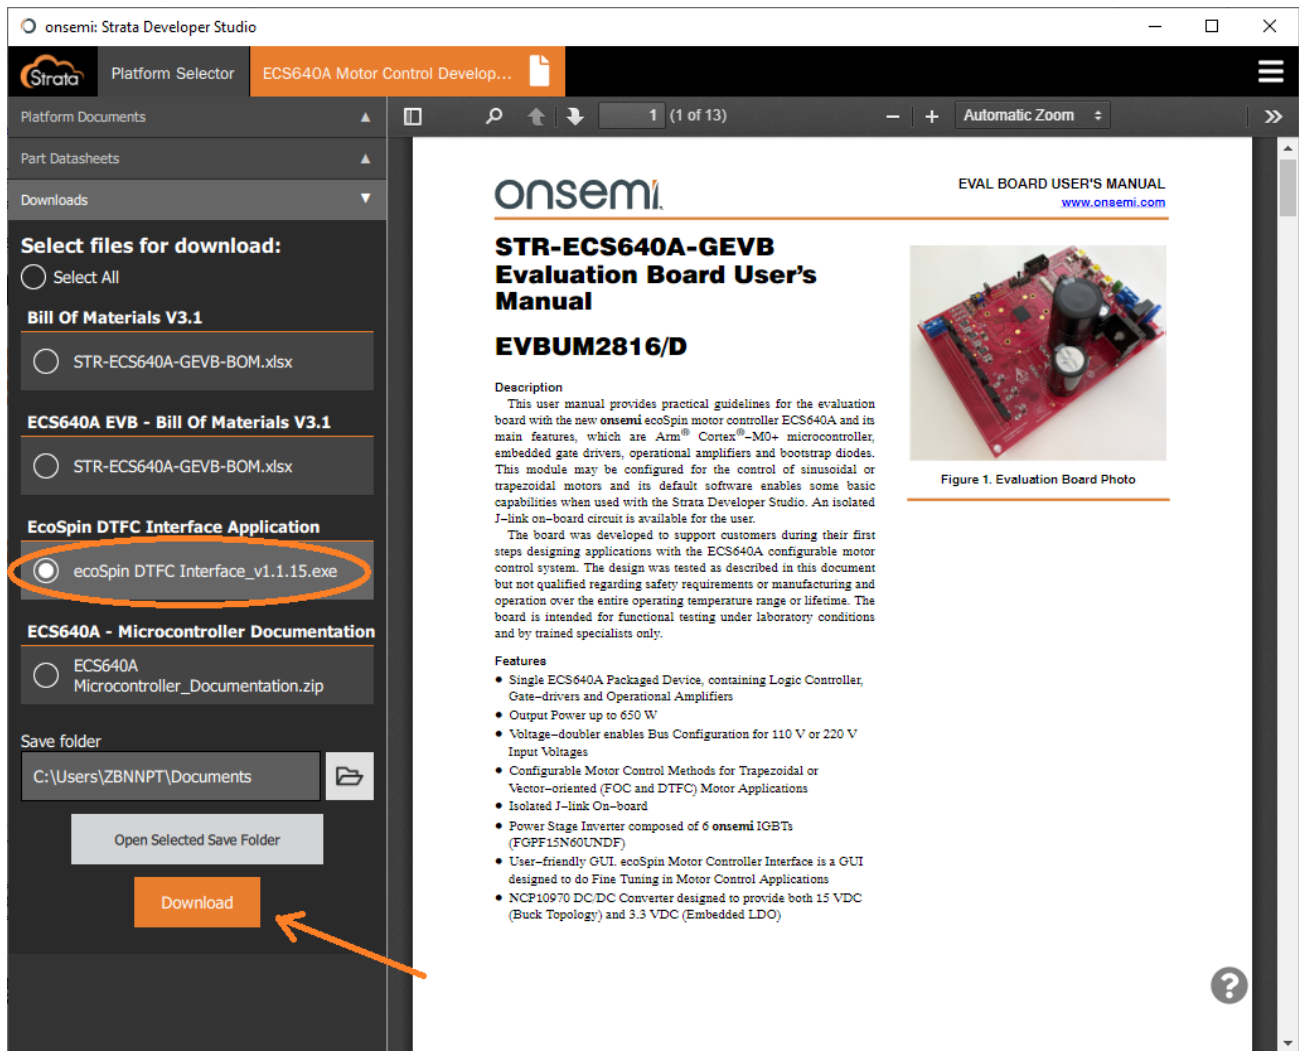

Figure 7. ecoSpin DTFC Interface Download and EVB User's Manual
Step 4: Download the “ecoSpin DTFC Interface.exe” application from the ECS640A Download section (see Figure 7).
Step 5: Browse the “ECS640A EVB User Manual” (EVBUM2816/D file) and become familiar with ECS640A development board connectors and interfaces in the Strata Developer Studio environment (see Figure 7).